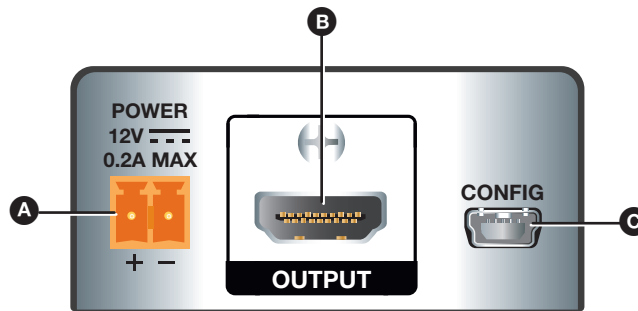

Figure 3. DVC RGB-HD A Rear Panel
5. **Connect the digital output.** Connect an HDMI sink to the rear panel HDMI output connector (see figure 3, **B**, on page 5).
6. **Connect a control device.** Connect a computer or control system to the rear panel USB Config port (see figure 3, **C**) to configure and control the converter via SIS commands or the PCS Configuration Software.
7. Connect a 12 VDC power supply to the 2-pole captive screw power connector (see figure 3, **A**).